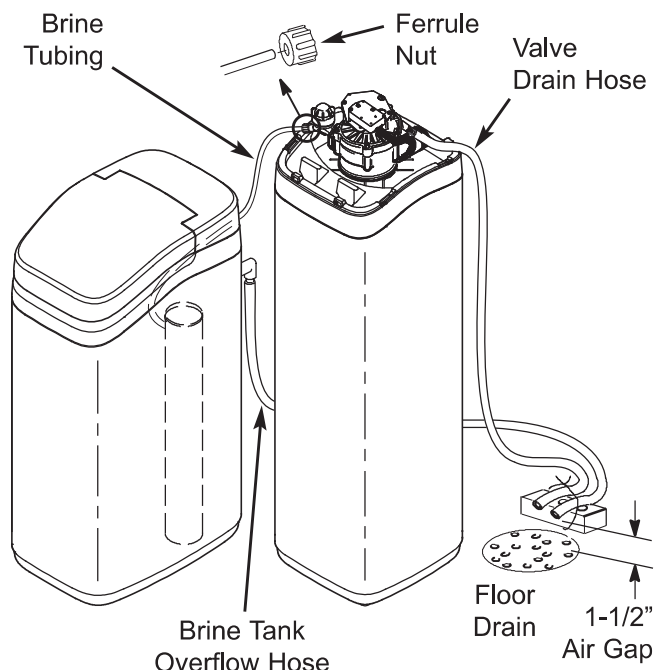

FIG. 16
- b. Connect the brine tube to the nozzle/venturi assembly using the ferrule nut provided (See Figure 16).